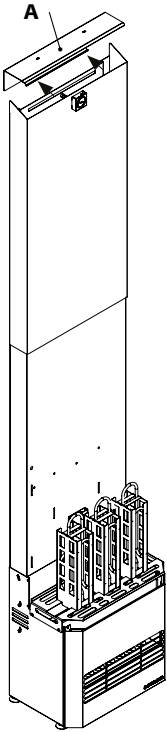

Figure 16
3. Hang the telescopic intake on the intake cap (Fig. 16, A).